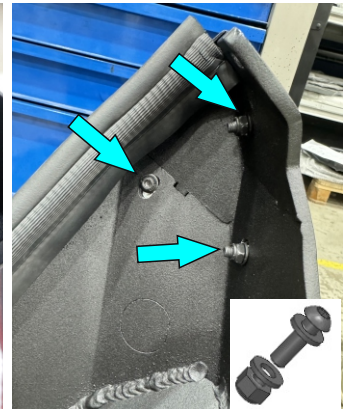

Fig.56
54. Install cage nuts M6 (fig.55) and secure fender flares to bumper body using screws M6x20, washers M6, nuts M6 (fig.56).